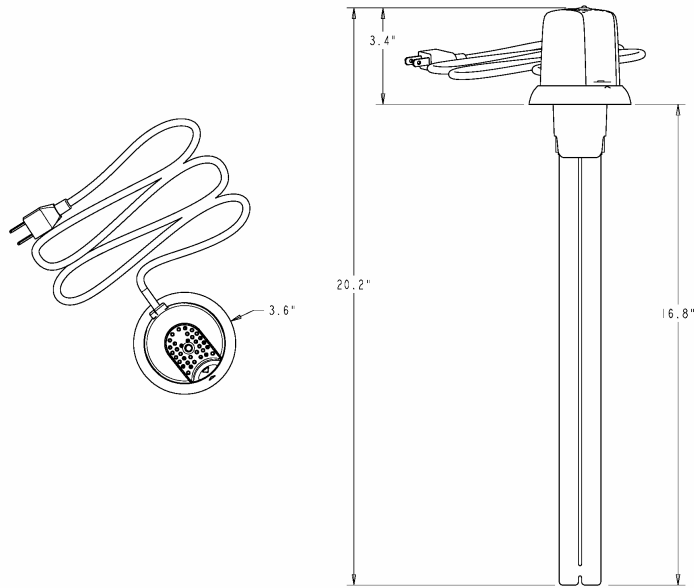

Fig. 1
- The depth of the duct must accommodate the full length of the UV lamp with at least 1” of clearance at the tip. (See Fig. 1)